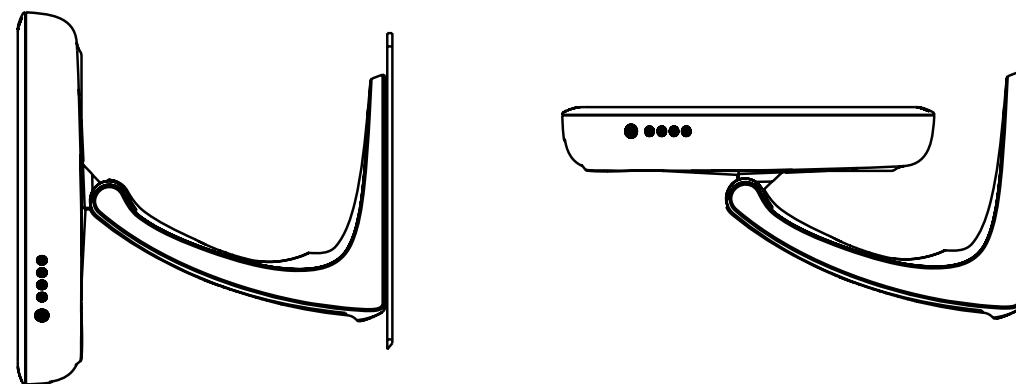

FIGURE 4: TILT FOR WALL MOUNT
2. ROUTE CABLES THROUGH CUTOUT (IF APPLICABLE) AND MOUNT MONITOR TO HORIZONTAL SURFACE USING THE TEMPLATE PROVIDED IN FIGURE 4.
4. SEE OPTION (1) FOR ADDITIONAL STEPS ON WALL MOUNT.